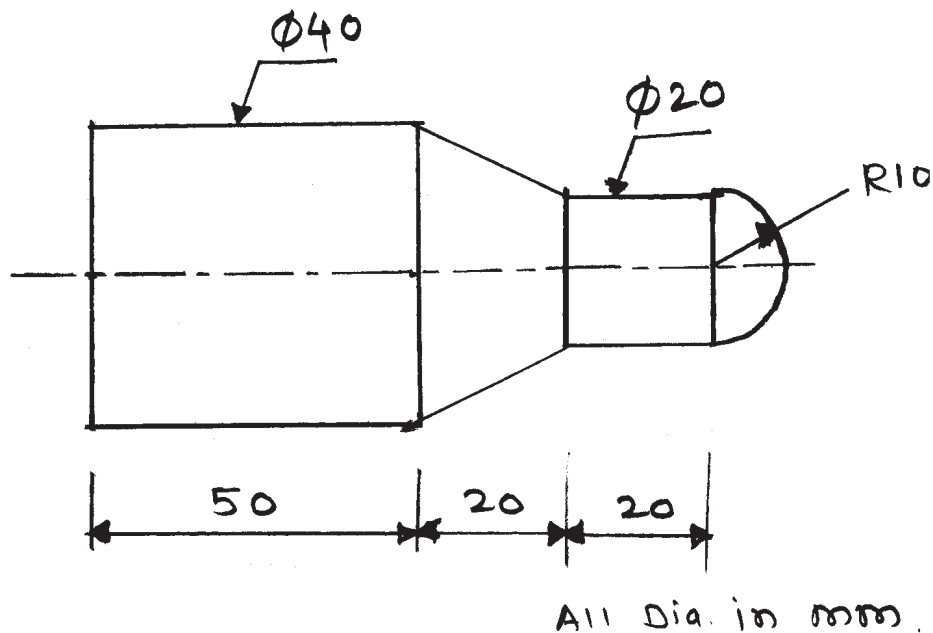

Fig. No. 1
- Prepare a part program to machine the workpiece shown in Fig. No. 1 on CNC lathe.